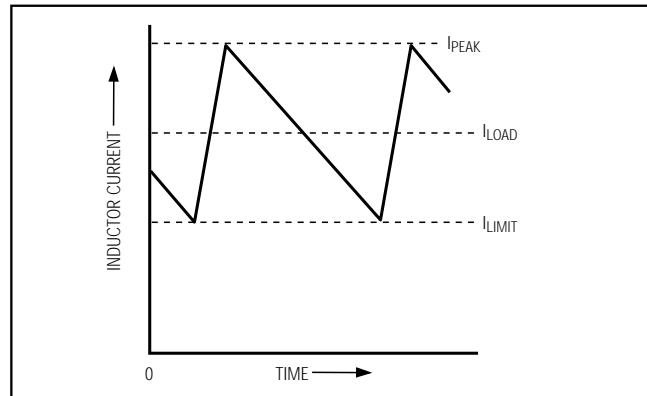

Figure 4. "Valley" Current-Limit Threshold Point
The current-limit circuit employs a unique “valley” current-sensing algorithm (Figure 4). If the magnitude of the current-sense voltage at CS is above the current-limit threshold, the PWM is not allowed to initiate a new cycle. The actual peak current is greater than the current-limit threshold by an amount equal to the inductor ripple current. Therefore, the exact current-limit characteristic and maximum load capability are a function of the sense resistance, inductor value, and battery voltage.
- 1) Determine the minimum (valley) inductor current  $I_{L(MIN)}$  under conditions when  $V_{IN}$  is small,  $V_{OUT}$  is large, and load current is maximum. The minimum inductor current is  $I_{LOAD}$  minus half the ripple current (Figure 4).